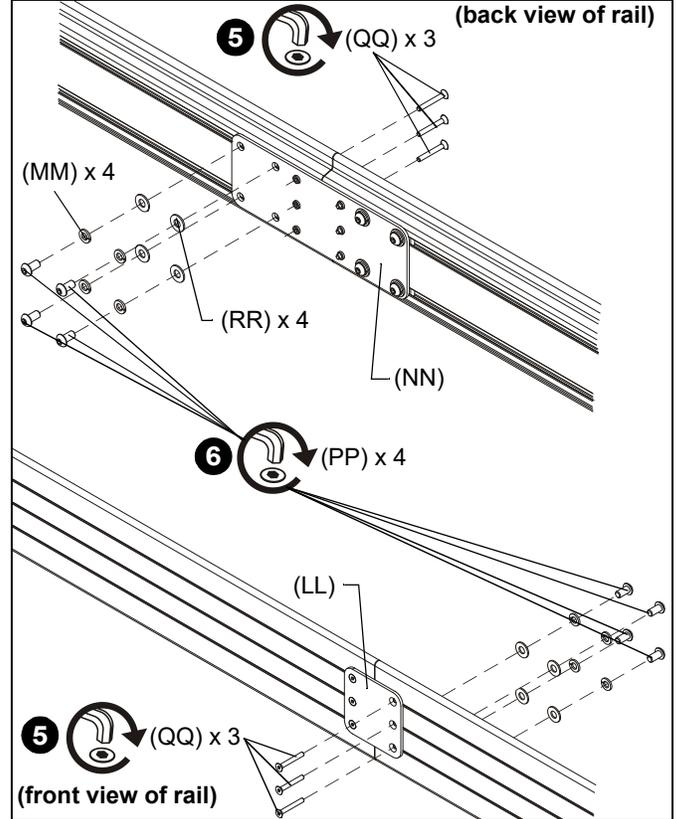

Figure 10
5. Secure connect bracket (LL) to front of second section of mounting rail (KK) using three 10-24 x 1-1/2" flat head cap screws (QQ) fastened through one side of connect bracket, mounting rail, tie bars (UU) and into connector plate (NN). (See Figure 10)
6. Additionally fasten connector plate (NN) using four 5/16 x 5/8" button head cap screws (PP), four 5/16" split washers (MM), and four friction washers (RR). (See Figure 10)
8. Partially fasten one 5/16" lock nut (AA) to each stud on upper T-slot studs.
9. Slide top T-slot studs (DD) with attached lock nuts (AA) down into top openings on array heads (FF). (See Figure 10)